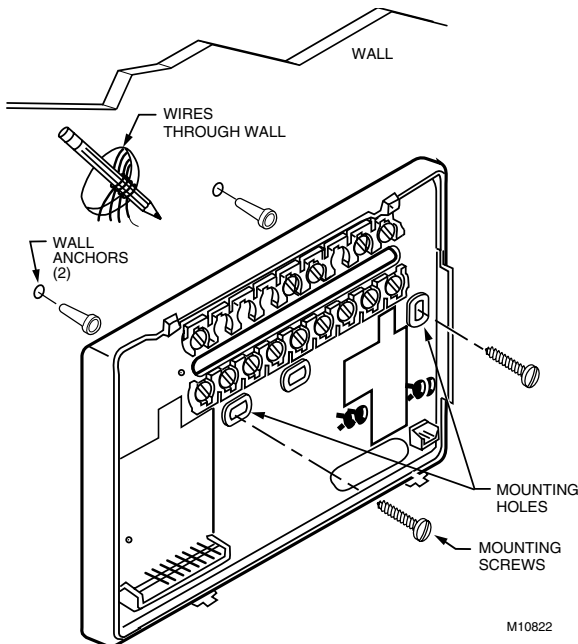

Fig. 3. Mounting the wallplate.
2. Use a pencil to mark the mounting holes. See Fig. 3.